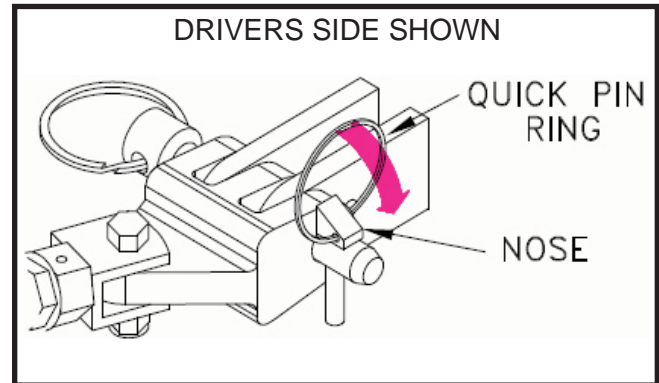
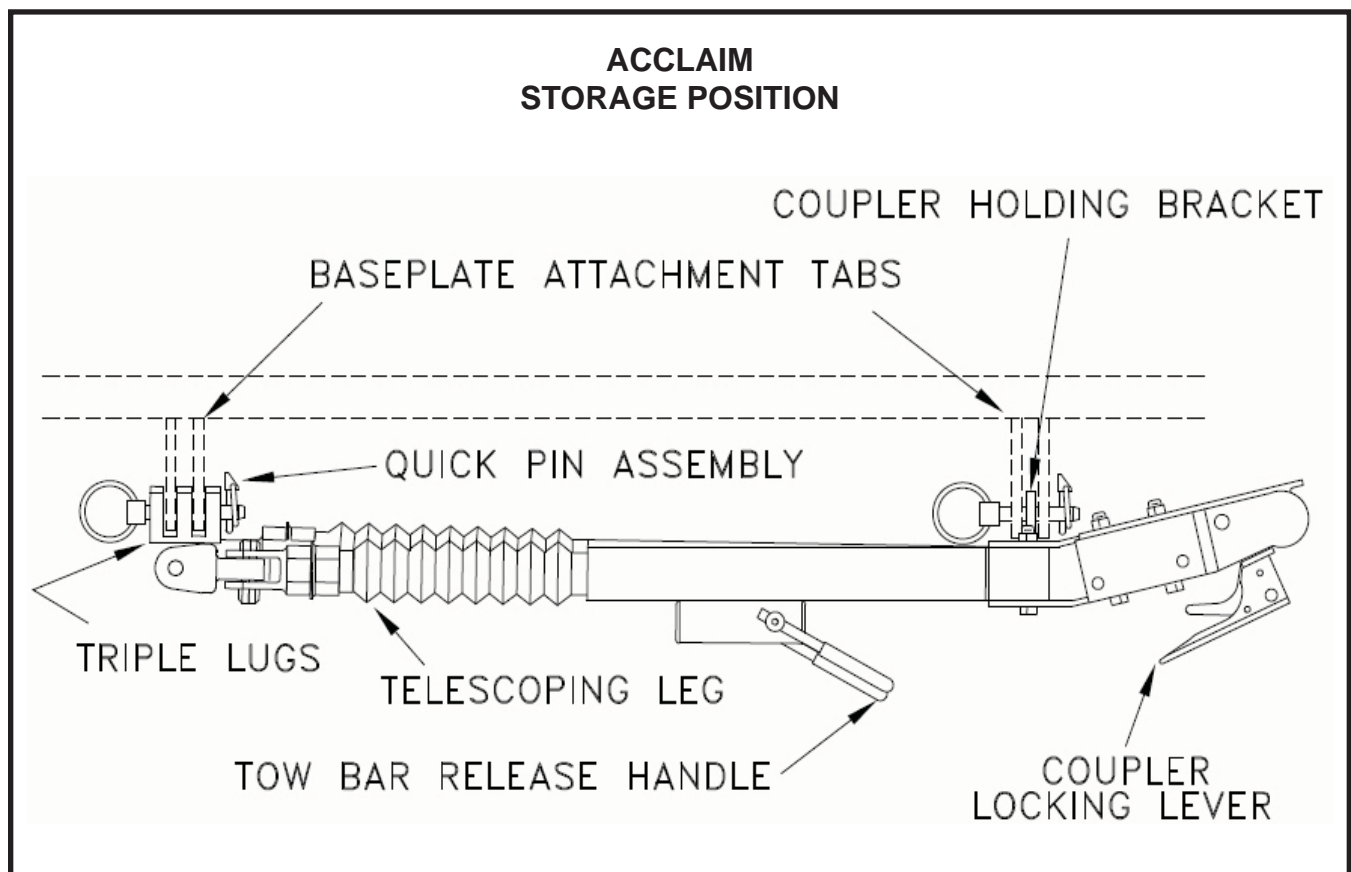
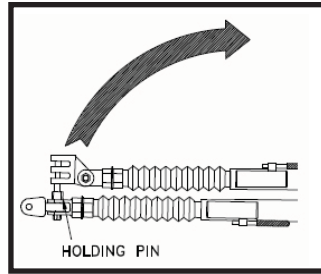

Figure 2
Figure 1
Figure 3
1. Using the cable hooks, attach the cables to a solid part of the chassis of the towed vehicle or to the convenience links. Slip the end of the hook through the neoprene keeper to prevent the hook from unhooking. (See Fig. 3) **NOTE:** It is best to have permanent chains that connect the convenience links to the frame of the car. (See Fig. 2)
2. **NOTE: Do not wrap safety cables around legs or damage could occur to rubber boot. If it is necessary to remove slack from the cables, wrap each once around their respective tow bar leg in front of the latch housing and then cross them under tow bar.** (See Fig. 1)
3. Using the cable hooks, attach the opposite ends of the cables to a solid part of the chassis of the towing vehicle if at all possible. Slip the end of the hook through the neoprene keeper to prevent the hook from unhooking. (See Fig. 3)
1. **Refer to figure 1 while installing the tow bar.** Hold the tow bar in position aligning the triple lug (with holding pin) onto the passengers side attachment tabs. Insert the 1/2 inch pin through the attachment tab and triple lug and secure with quick pin assembly, folding the quick pin ring down to the nose side. **Refer to figure 2.** Next hold the coupler end of the tow bar to the drivers side attachment tabs. Align the coupler holding bracket (on under side of coupler) between the driver side attachment tabs and insert the 1/2 inch pin through the tabs and bracket. Secure the 1/2 inch pin with a quick pin assembly, folding the quick pin ring down to the nose side. **Refer to figure 2.**
Make sure you are able to identify the tow bar parts, (Figure 1), before proceeding.
4. Extend the other tow bar leg over to the vacant attachment tab and insert the half 1/2" pin through the triple lug and the tabs. Insert the quick pin assembly into the half inch pin folding the ring knob side down. See Figure 2 of the **Installation** section.